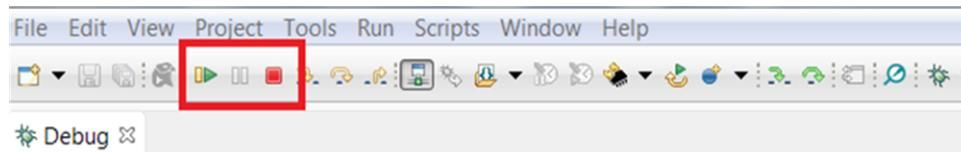

Figure 27. Execute Buttons
- Step 8. When the CCS software is connected to the device, run the program from CCS to execute the program in hardware by clicking the green play button (see Figure 27. Click the red stop button ((see Figure 27) to disconnect the MSP-FET430UIF from.